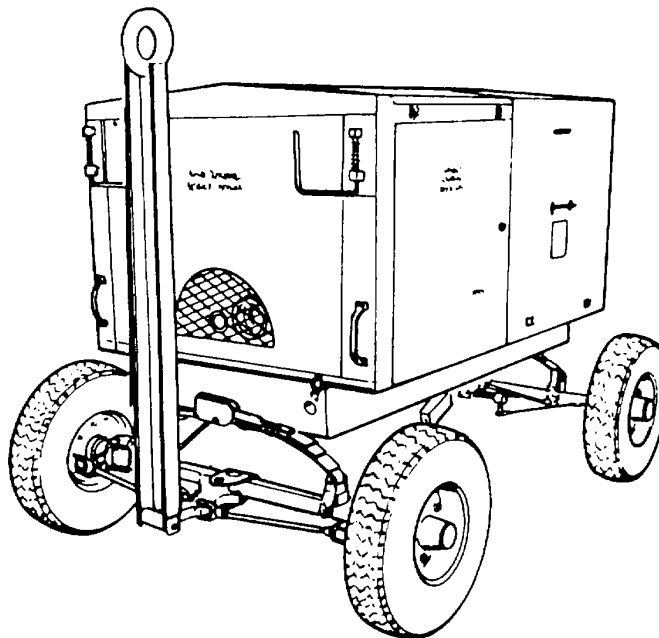

Figure 9-5. Type D5 Hydraulic Test Stand
c. *Hydraulic Test Stand.* The hydraulic test stand, shown in figure 9-5, is a mobile, self-contained hydraulic testing unit. It is enclosed in a steel, weather resistant housing, mounted on a trailer assembly that has a tow bar to permit towing with a vehicle. Access to components in the housing is provided by doors.